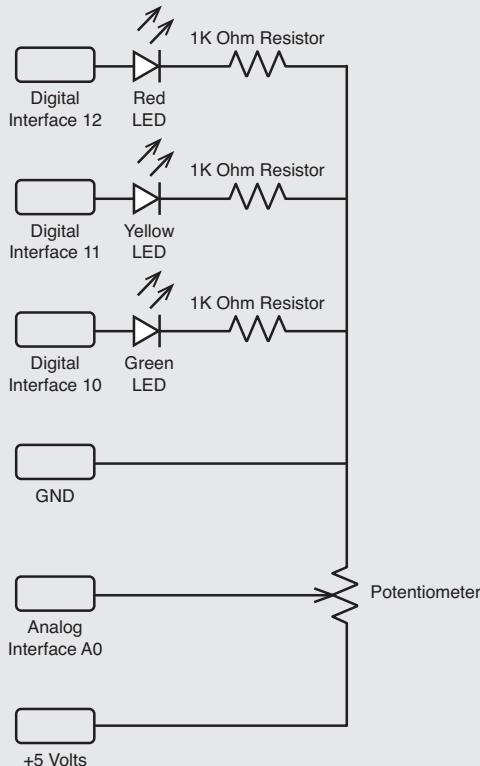

FIGURE 15.4
2. Add the traffic signal circuit that you used from sketch1401. The final circuit diagram is shown in Figure 15.4. You can use three different-colored LEDs, or you can use three of the same color LED.